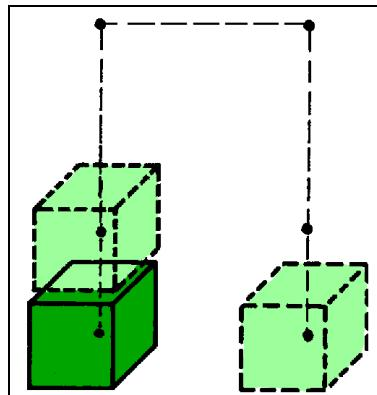

Figure 9-5
- 10** Edit program *USER9C*, so the robot will pick the block from B and stack it on top of the block at A as shown in Figure 9-5.
- Q** *Summarize the recommended method for recording a relative position (on the Z-axis) for a stacking operation (hint: refer to Figure 9-5).*